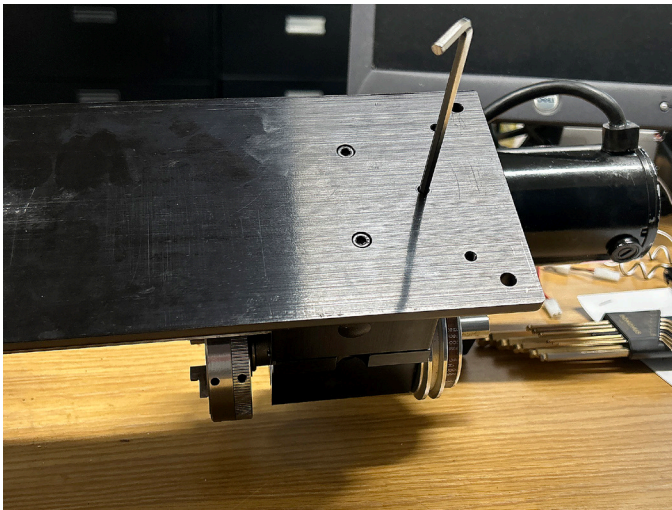

FIGURE 11
11. Now that the four main mounting screws are tight, use the access hole at each end of the base to tighten the two 10-32 x 1-1/4" SHCS just a bit more. Again, do not over-tighten these screws, or you will strip out the threads (see Figure 11).